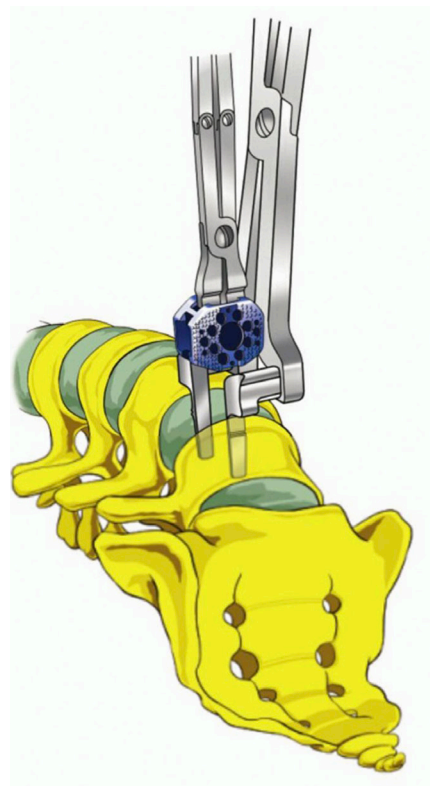

Fig. 6a
- Stretch it out again and slide the Cage along the anterior lumbar spreader into the intervertebral space up to 4 mm medial to the anterior edge of the vertebral body. At the same time, its midline should be aligned with the midline of the vertebral body. If the implantation depth is not enough, you can remove the extracting forcecep and gently tap the cage clamping area until the cage is completely in place. (Fig. 6a).